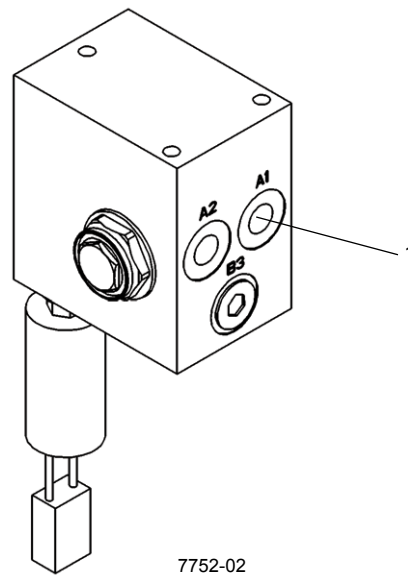

FIGURE 2-13
2. Install a pressure check diagnostic coupler with gauge onto the diagnostic nipple at "A1" port of the Dual Accumulator Charging Valve (see Figure 2-13).